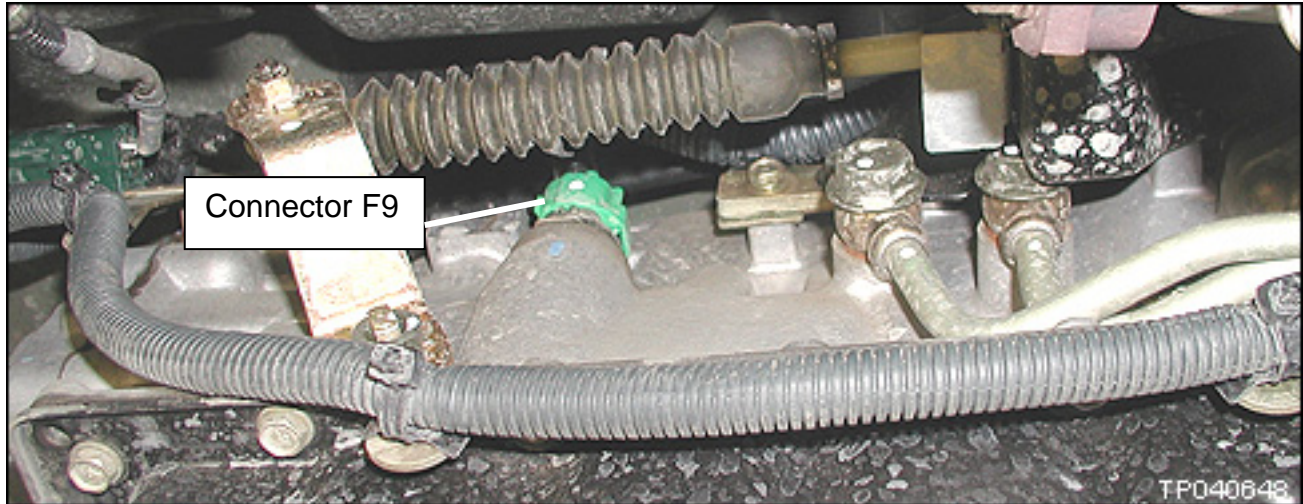

Figure 1
1. Disconnect connector F9 (see Figure 1).